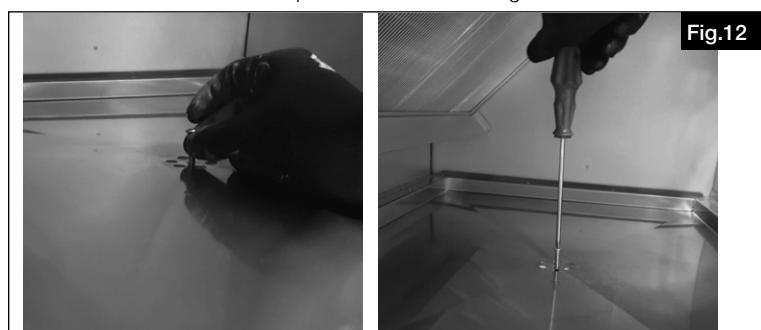

Fig.12
6. Unscrew the condensate cap from the screw and tighten the screw with a screwdriver (see Fig.12).